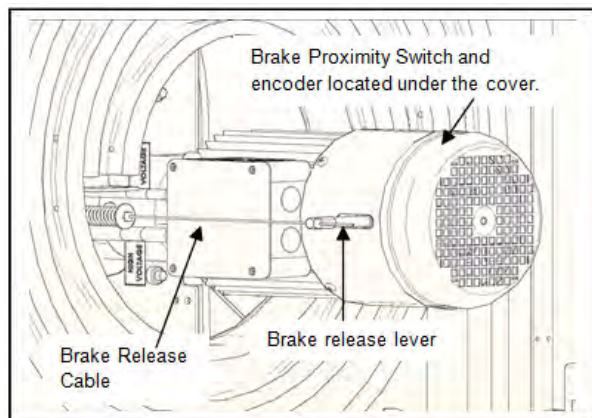

Figure 33
4. Inspect the entire length of the brake release cable running from the brake release handle to the electric brake mechanism located on the drive motor assembly. The cable should not be frayed, worn, or damaged. Replace if necessary. (See Figure 33.)